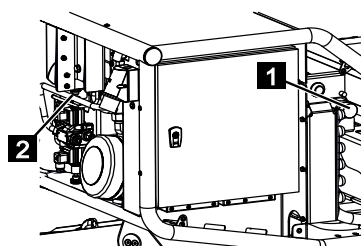

Fig. 203
- After service mode, screw the valve [LS] (Fig.203/2) out again completely and unlock the valve [outrigger, crawler] (Fig.203/1) by turning it anti-clockwise. Screw the covers back into place.